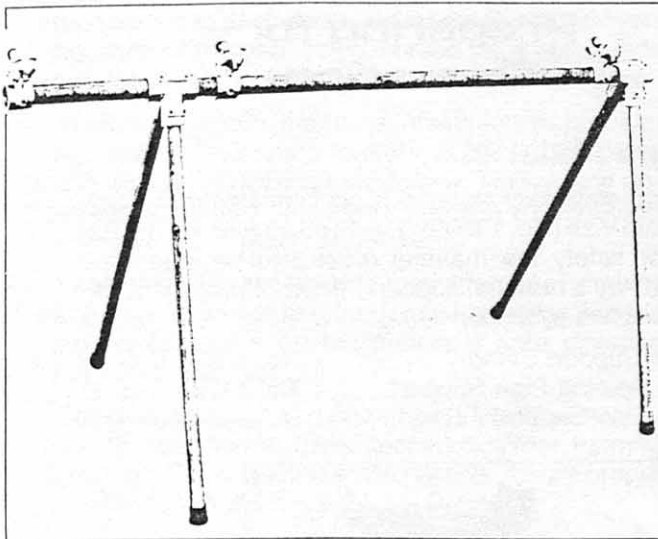

Figure 9 — Ball Bearing Pipe Support and Fitting
2. Ball Bearing Pipe Support ..... No. 13206 (Fig. 9)
and Pipe Support Fitting ..... No. 13324 (Fig. 9)